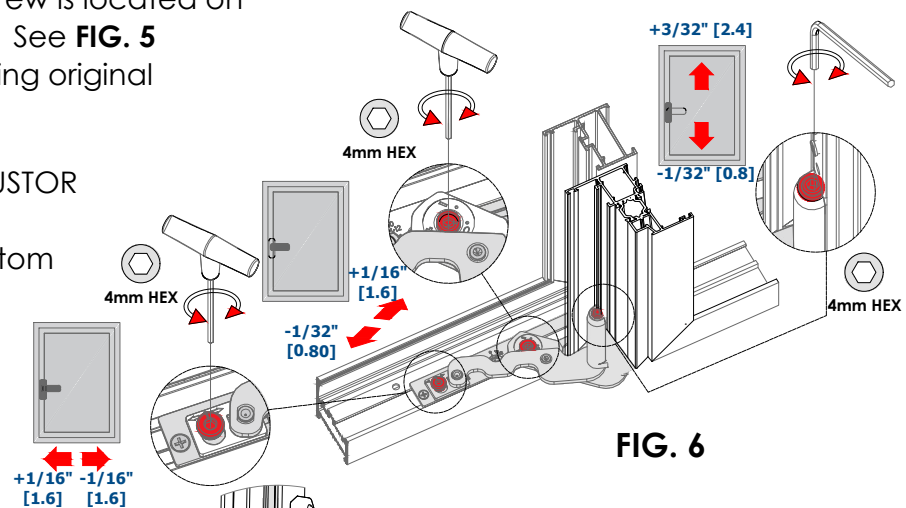

FIG. 6
- Using 4mm HEX KEY adjust hinge if needed as per **FIG. 6**